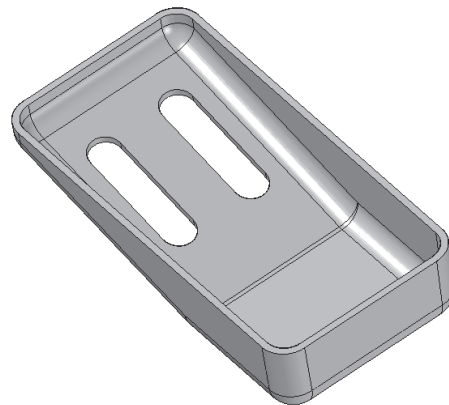

Figure 8-60 Model after creating the cutouts
- e. Create two cutouts in the model, refer to Figure 8-60.
1. Create two cutouts in the model, as shown in Figure 8-60.